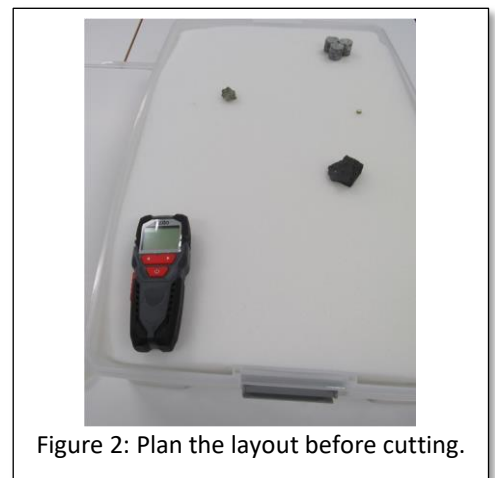

Figure 2: Plan the layout before cutting.
2. Keep one corner well clear of rocks for stud finder calibration. Lay out rocks on foam, well-separated (Figure 2).